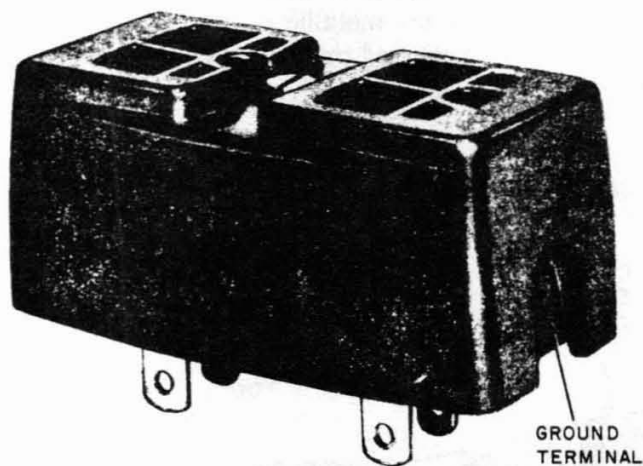

Fig. 3—Hubbell BL-12433 Adapter
**Note:** When using a Hubbell BL12433 (Fig. 3) adapter with a 2-conductor ungrounded receptacle, a ground screw is provided for the external ground termination.